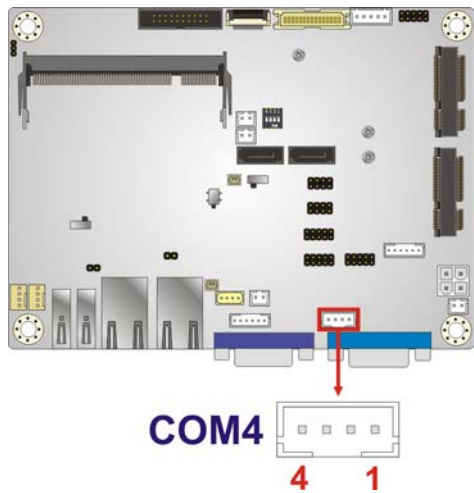

Figure 3-19: RS-422/485 Connector Location
- CN Location:** See **Figure 3-19**